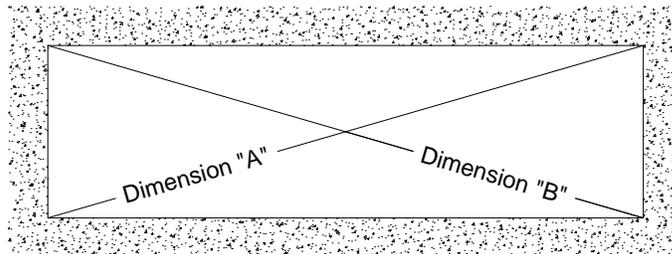

Fig. 30.1
- Make sure the opening is square and plumb. Measure each diagonal of the opening. **SEE Fig. 30.1.**